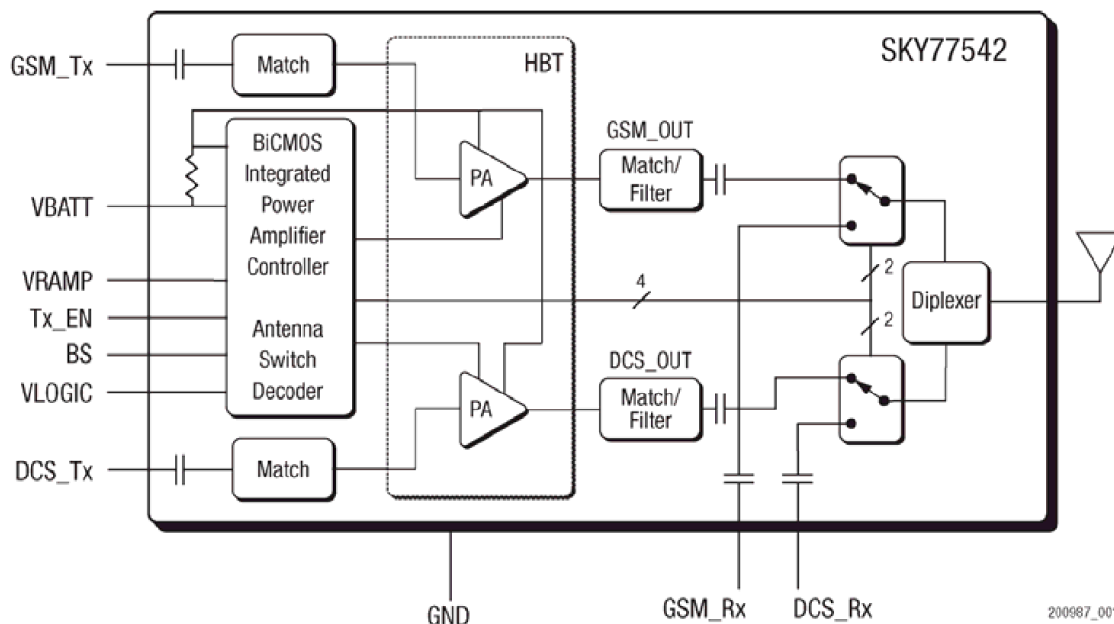

Figure.3-2-1 SKY77542 FUNCTIONAL BLOCK DIAGRAM
Band selection and control of transmit and receive modes are performed using two external control pads. Refer to the functional block diagram in Figure 3-2-1 below. The band select pad (BS) selects between GSM and DCS modes of operation. The transmit enable (Tx_EN) pad controls receive or transmit mode of the respective RF switch (Tx = logic 1). Proper timing between transmit enable (Tx_EN) and Analog Power Control (VRAMP) allows for high isolation between the antenna and Tx-VCO while the VCO is being tuned prior to the transmit burst.